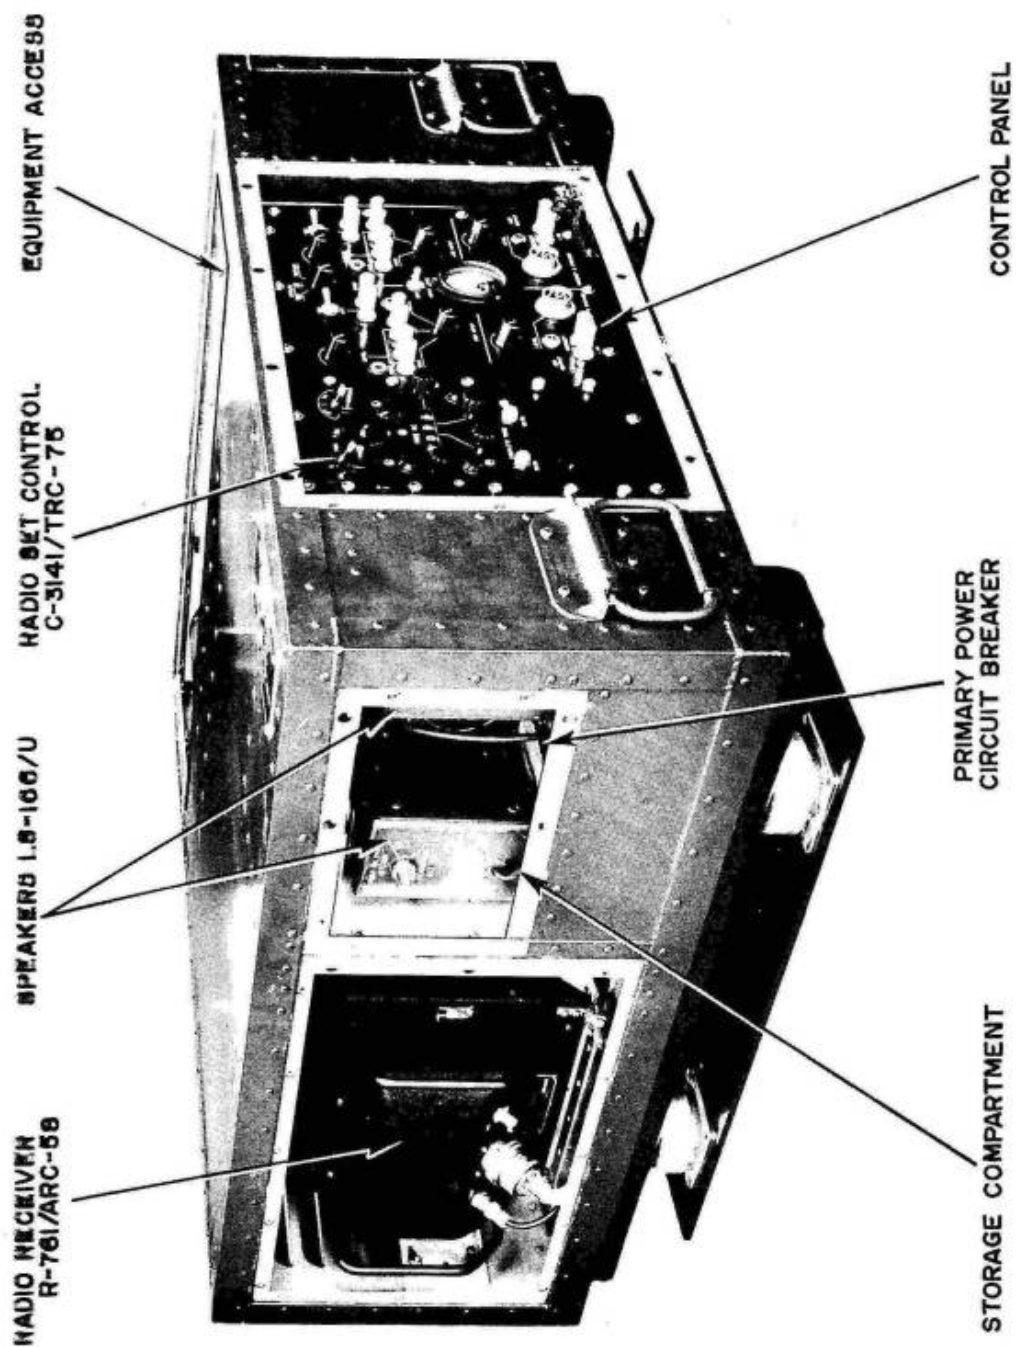
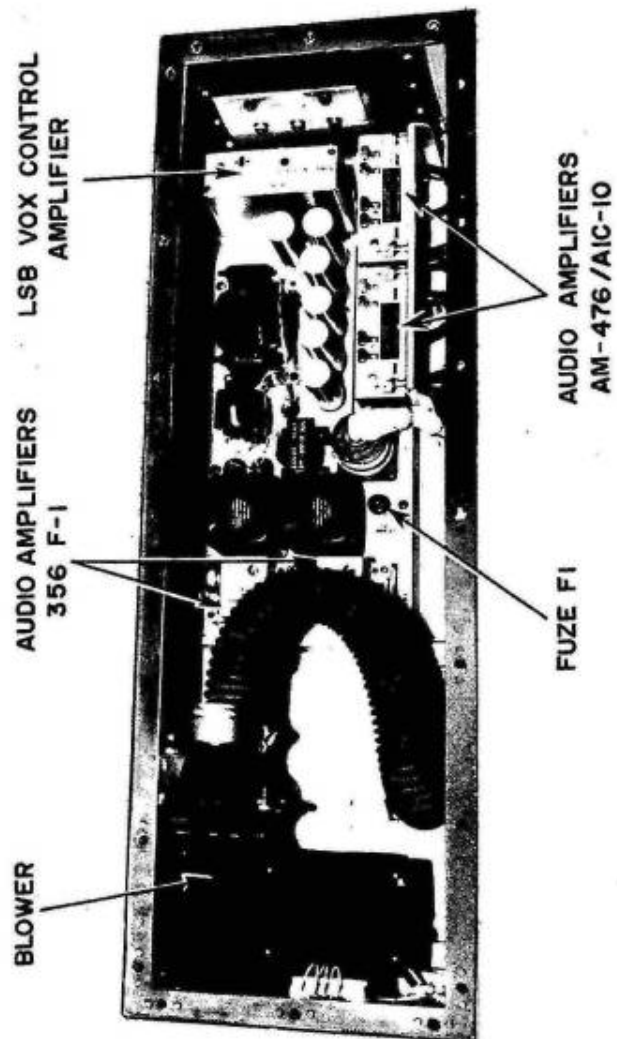

FIG 14 - DUPLEX RECEIVER 651E-1 (COVERS REMOVED)
FIG 15 - DUPLEX RECEIVER 651E-1 - TOP ACCESS (COVER REMOVED)
68. This receiver (Fig 14) is a single sideband receiver that is capable of receiving on any of 28,000 channels in the frequency band 2.0 Mc/s to 29.999 Mc/s. The control panel (Fig 25) of this receiver provides direct manual selection of the 1 kc/s interval channel frequencies and direct-digital read out of the selected operating frequency. The panel also carries most of the operating controls for the overall station.
### Radio Set Control C-3141/TRC-75 (Fig 14)
### Radio Receiver R-761/ARC-58 (Fig 14)
### Amplifier Assemblies (Fig 15)
78. This case houses the components of Duplex Receiver 651E-1. Screw fasteners allow the front cover to be removed for access to the control panel. A storage compartment (Fig 14) is provided in the case for the two loudspeakers. Two further removable panels (Figs 14 and 15) permit access to the units contained in the case. Power, antenna and interconnecting cable connections are made at the rear of the case (Fig 26). Audio line, microphone, and handset connections are made at the control panel (Fig 25), which also provides all control functions for Duplex Receiver 651E-1. Audio control functions and mode of operation for Radio Set AN/TRC-75 are also provided at this panel during duplex operation of the station. A meter on the panel monitors audio levels being supplied to the exciter in the Radio Set AN/TRC-75. Forced air cooling for the Radio Receiver R-761/ARC-58 of the Duplex Receiver 651E-1 is provided by a blower (Fig 15) mounted in the Duplex Receiver case.
82. The two loudspeakers are housed in metal cases fitted with hold-down clamps and are stowed in the stowage compartment of Duplex Receiver 651E-1, (see Fig 14). When the station is operating the loudspeakers are normally secured by brackets in the positions shown in Figs 2 and 3. The speakers may be connected up as follows, when required:-